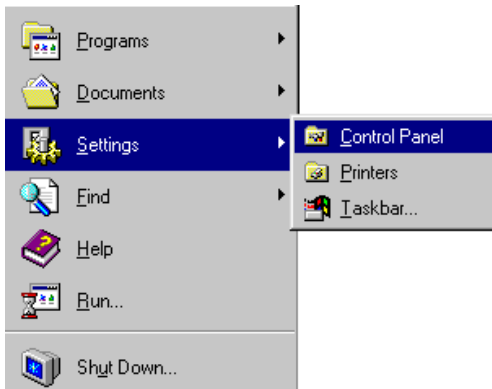
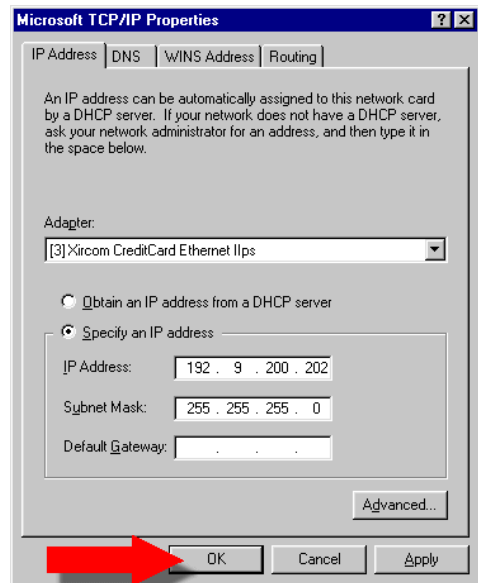

Figure 10
Figure 13
- (1) Get the IP address and subnet mask for the Service PC from the hospital network administrator.
- (2) Enter IP address and subnet mask as displayed in Figure 10 to Figure 13
- (3) Connect the Service PC to the network
- (3) Enter IP address and subnet mask as displayed in Figure 10 to Figure 13.
- (4) Use a crossed network UTP cable to connect the network interface of the Service PC directly with the network interface of the printer.